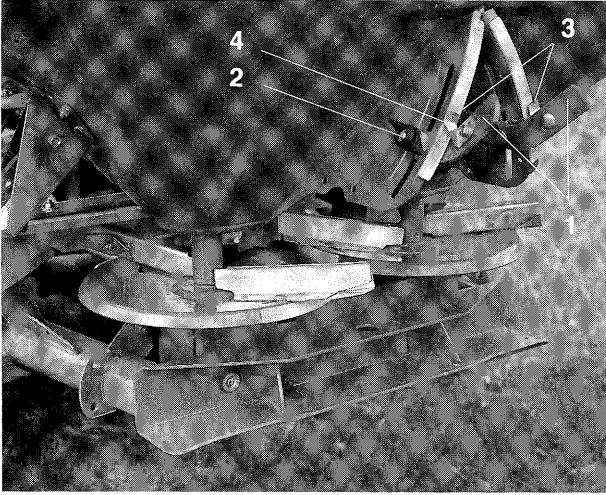

Fig. 7.5
For achieving the required spread rate the necessary shutter position is set by the two setting levers (fig. 7.5/1). The setting levers are a stop for the shutter slides so that it is possible to set varying opening sizes of the outlet openings. The required shutter slide position can either be determined **with** the standard supplied setting chart or with the calibration device (option\*).
- Slacken thumb nut (Fig. 7.5/2).
- Set the read-off edge (Fig. 7.5/3) of the setting lever pointer (fig. 7.5/4) onto the figures taken from the setting chart (shutter slide position).